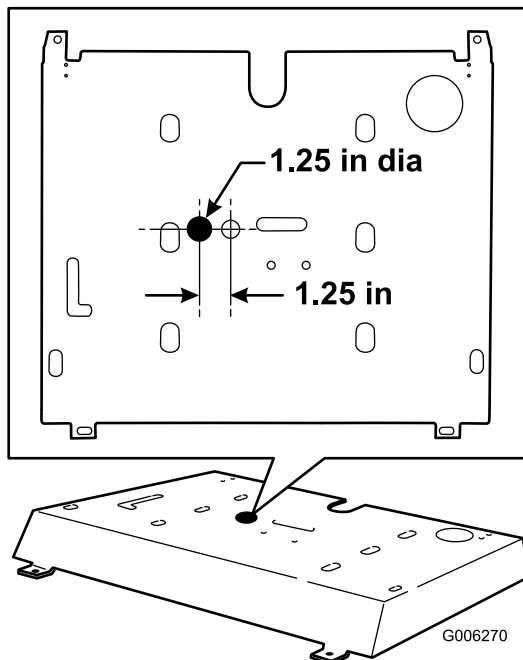

Figure 5
22. Using the dimensions shown in Figure 5, locate, mark and drill a 1.25 inch diameter hole in the top of the seat support cover.